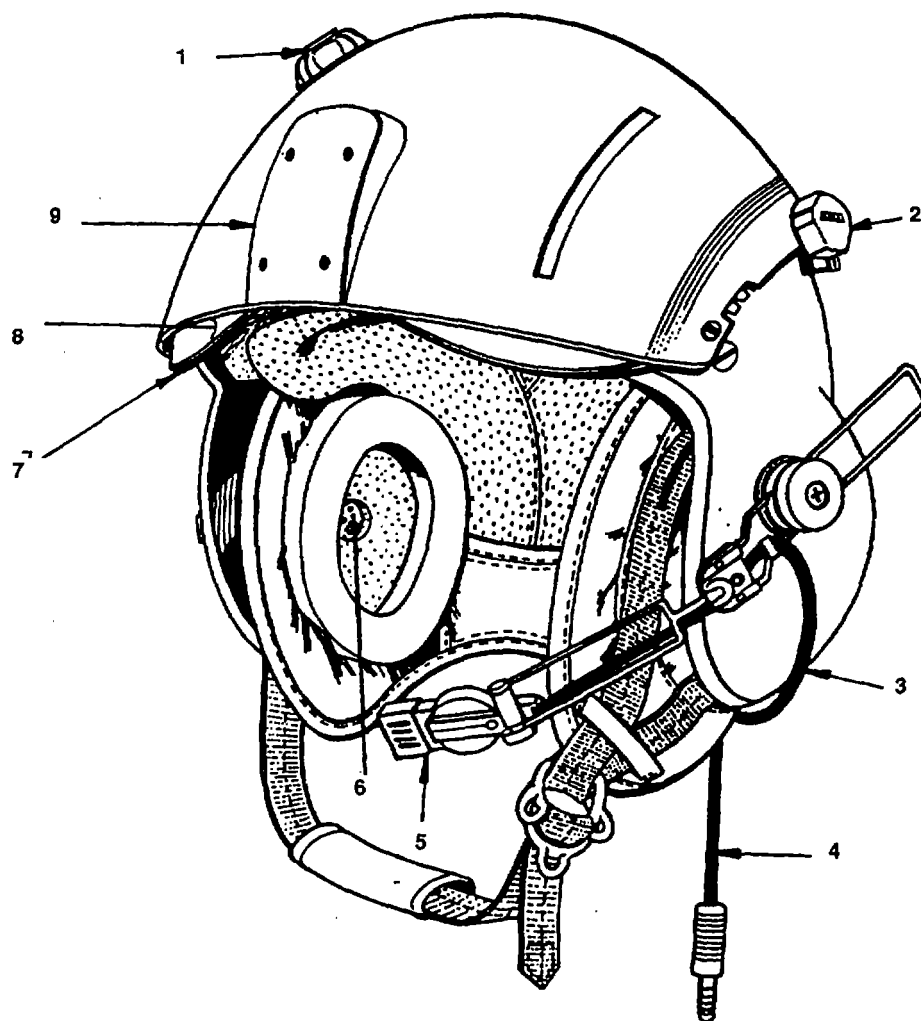

Figure 1-4. SPH-4B Communications System and Lightweight Dual Visor Assembly
e. Communications System (Figure 1-4). The communications system consists of a boom-mounted adjustable microphone (5), a microphone cord (3), a communications cord (4) with a connector plug for radio communications, and a pair of earphones (6) housed inside the earcups. Refer to TM 11-5965-279-13&P, Operator, Aviation Intermediate Maintenance Manual, Including Repair Parts and Special Tools List for Headset-Microphone MK-896NA1 C Operating Instructions.
f. Lightweight Dual Visor Assembly (Figure 1-4). The ANVIS dual visor assembly protects the eyes from glare, dust, ballistic fragments, foreign particles, and flash fires. This assembly incorporates two polycarbonate visors: a clear outer visor (8) operated via an adjustable lock (1) and a neutral inner visor (7) operated via an attached actuating knob (2). The visor housing provides a mounting area (9) for a V-1 mount for ANVIS-6 night vision goggles.